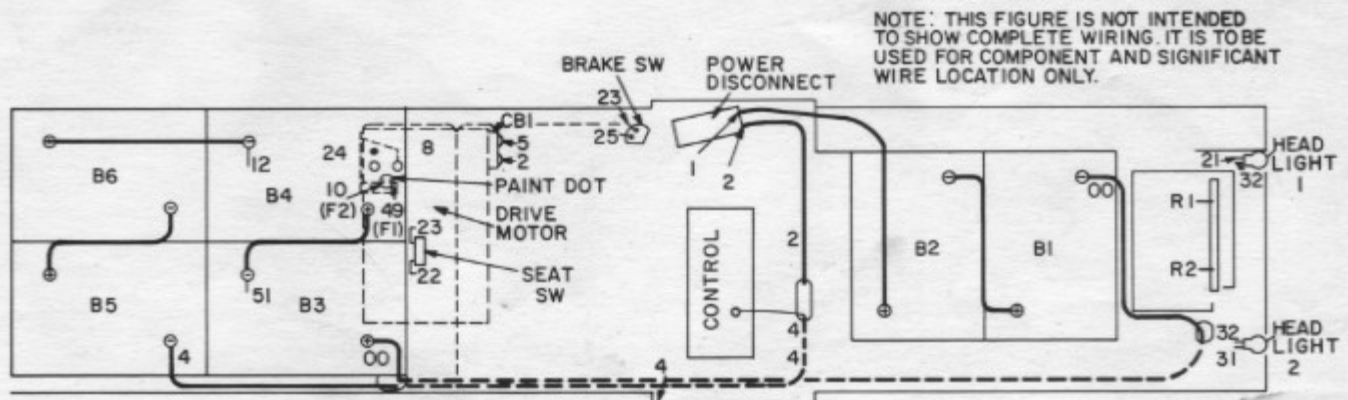

Figure 1
3. Insert batteries in tractor according to Fig. 1.
5. Connect battery cables in accordance with Fig. 1. Coat terminals after connecting with a thin coat of grease. Make sure that all surfaces are coated.
2. Connect seat switch leads No. (22) and (23) to seat switch.
4. Moving all wires aside, place batteries in rear compartment. Refer to Fig. 1.
5. Connect wire #12 to Negative terminal of battery B-4 by removing one battery clamp bolt and attaching terminal. Tighten down bolt (See Fig. 1).
6. Connect wire #51 to Negative terminal of battery B-3 (See Fig. 1).
8. Connect all jumpers to rear batteries (See Fig 1).
9. Connect wire (00) to B-3 Positive terminal. Coat terminals after connecting with a thin coat of grease. Make sure that all surfaces are coated.